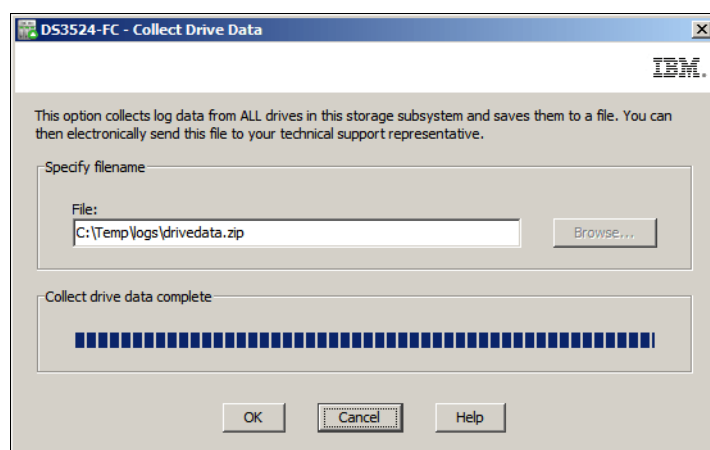

Figure 14-11 Collect drive data complete
2. Click the **Browse** button to specify the location and filename of the compressed file where you will save the drive diagnostic data. Then click the **Start** button to save the file. Figure 14-11 shows the window after the drive diagnostic data has been saved.